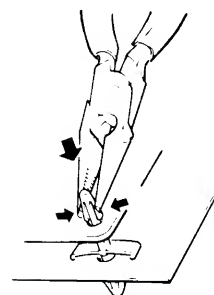

Fig. D-4
- 4) Pinch a white plastic spacer at the corner of the controller PCB with a pliers and pull the PCB up. There are four spacers at the corners; repeat at the other three spacers. Fig. D-4.